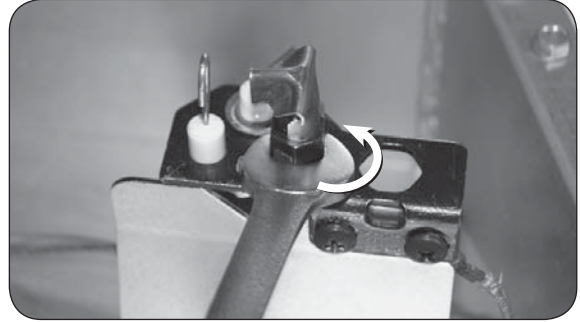

Fig. 4-2 Loosen pilot head
1. Using a $\frac{7}{16}$ " wrench, carefully loosen the pilot head a half-turn counter-clockwise (see Fig. 4-2).